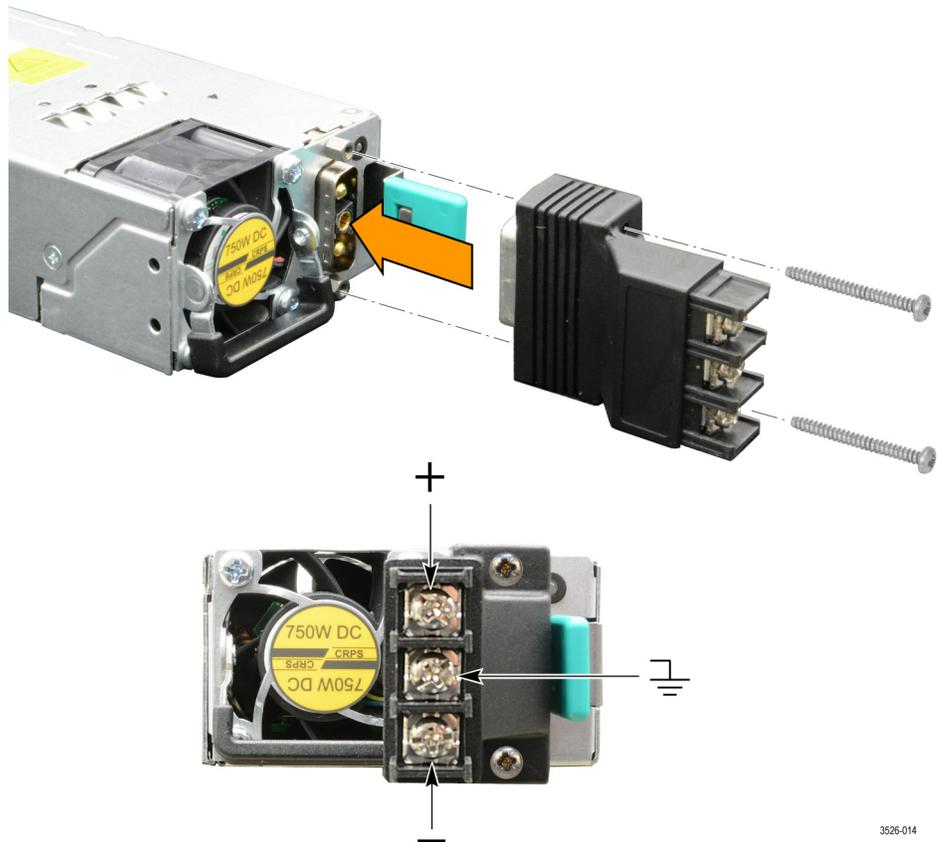

Figure 1: Adapter for the optional DC power supplies
2. Push the On/Standby button on the instrument front-panel and the instrument will turn on. (See Figure 1 on page 4.)